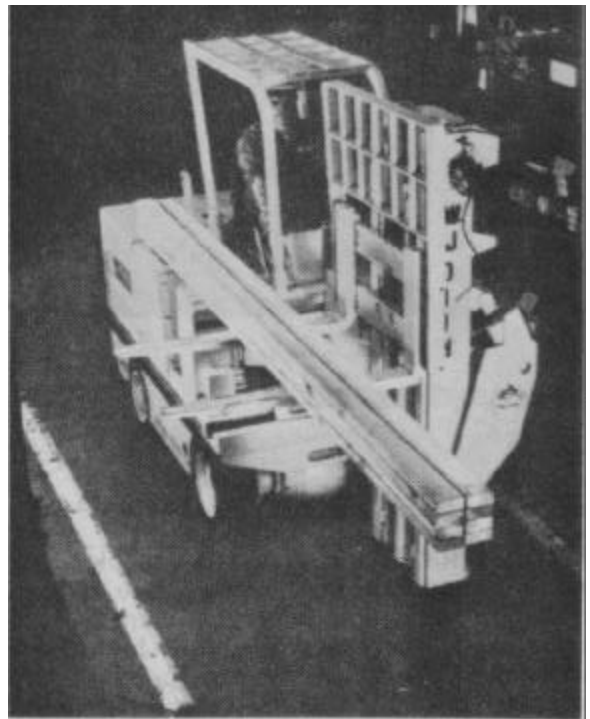

Figure 1-3.
3. When the mast assembly is pivoted out 90 degrees and shifted to the right, the truck operates as a side loader. (Figure 1-3).